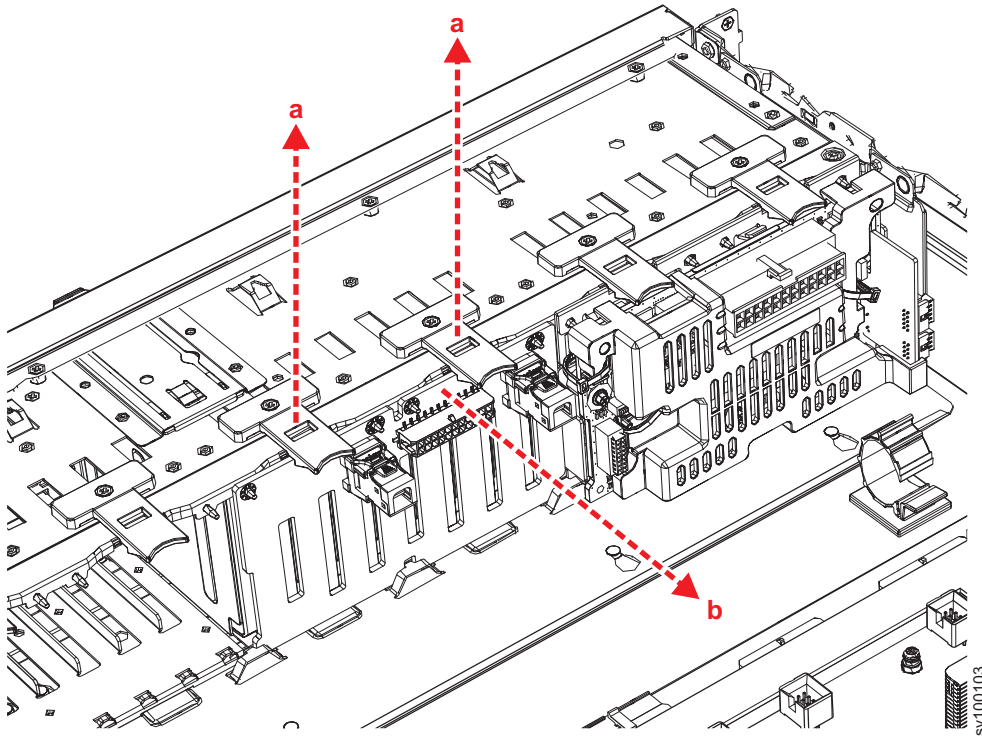

Figure 89. Removing the 2145-SV1 SATA drive backplane
8. Lift the two front tabs and rotate the backplane assembly toward the rear of the node to remove it, as shown in Figure 89 on page 108.